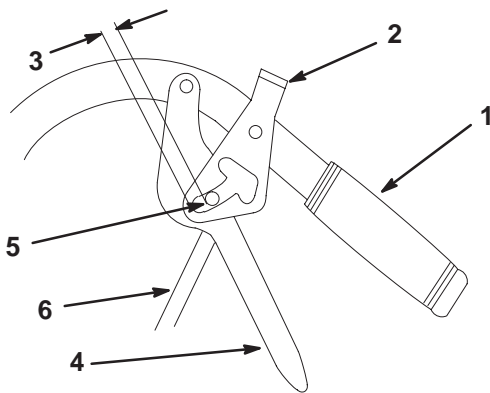

Figure 6
3. Adjust the control rod length by threading the rod in or out of the rod fitting until there is a 3/16 to 1/4 in. (5 to 6 mm) clearance between the control rod and the bottom of the neutral/parking brake lock (Fig. 6).
6. Adjust the control rod length by repeating steps 3 and 4 (Fig. 6).